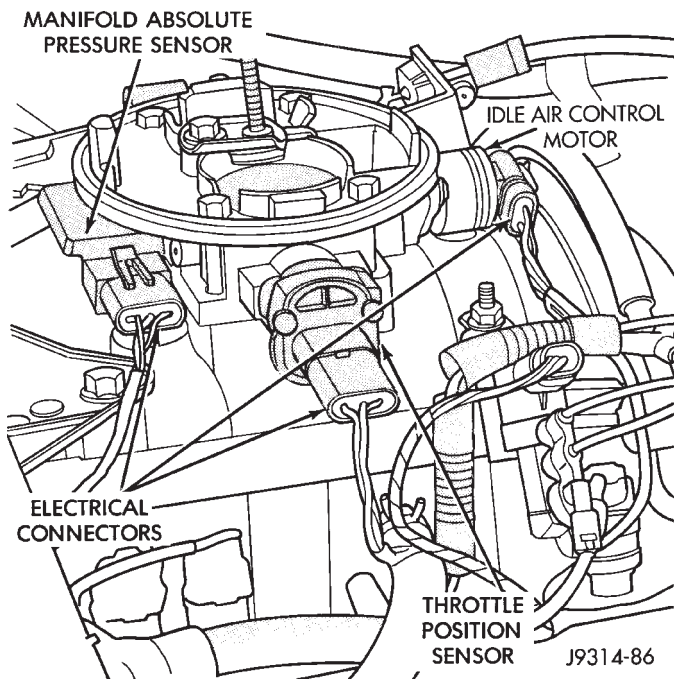

Fig. 40 TPS—5.2L Engine
The TPS is located on the side of the throttle body (Fig. 40) on the 5.2L engine.
- (1) Remove air intake tube at throttle body.
- (2) Disconnect TPS electrical connector (Fig. 40).